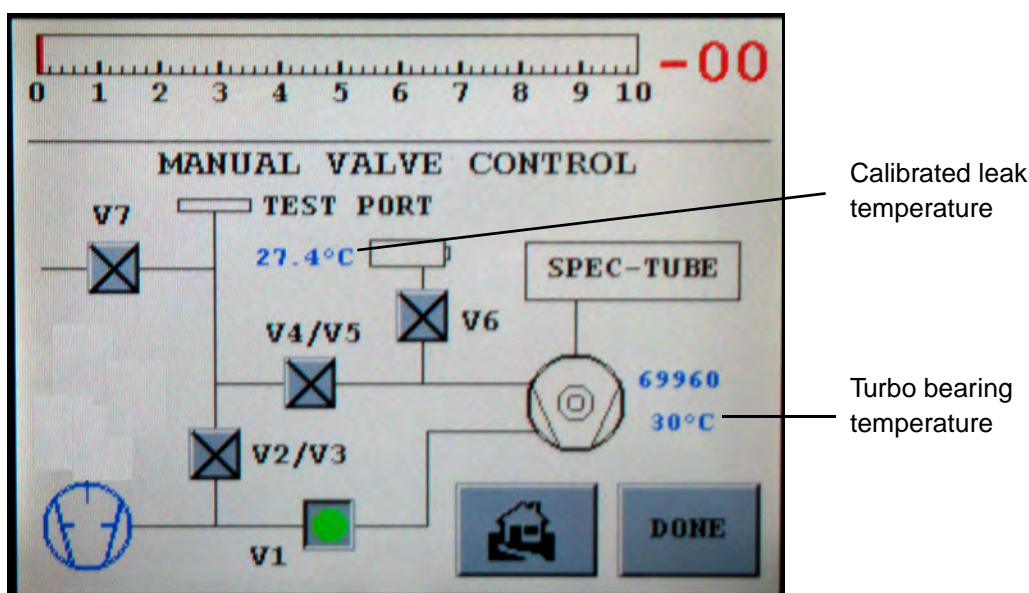

Figure 3-5 Manual Valve Control
- Press **Valve Control** on the Set-Up screen and the Manual Valve Control screen appears (Figure 3-5).